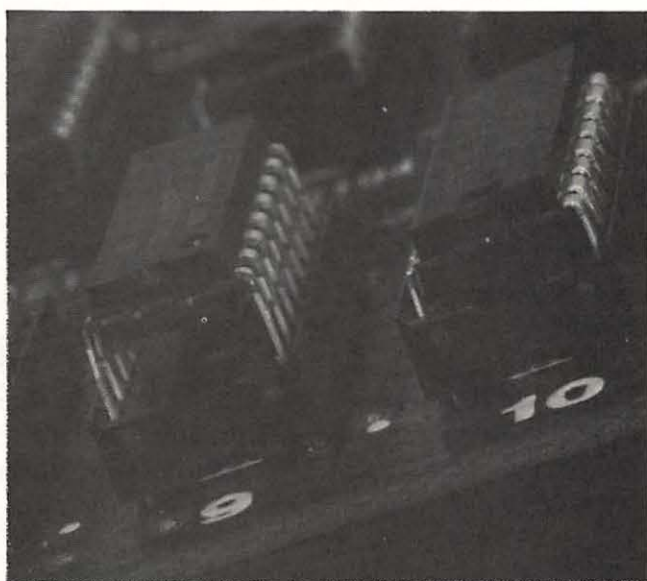

Fig. 1-15. Once each row of pins has been started into the socket, you can press down gently to complete the chip insertion.
- c. With the chip at a slight angle, press down gently, causing the row of pins in contact with the socket to bend slightly, which lets the other row of pins slip easily into their sockets, as shown in Fig. 1-15.